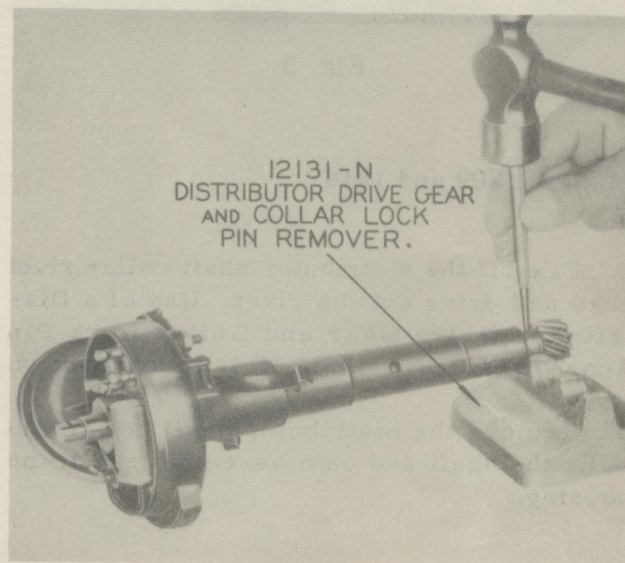

Fig. 4
1. File off the drive gear rivet head and drive out the rivet. Use of a Distributor Drive Gear and Collar Lock Pin Remover (Tool No. 12131-N) is recommended (Fig. 4).